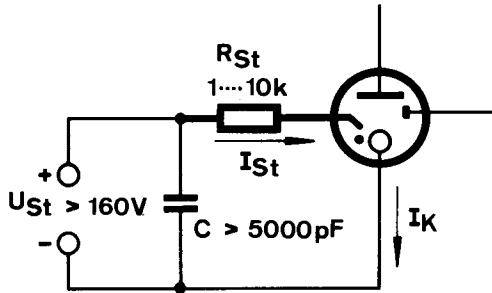

Fig. 5
4) Trigger capacitors of over 5.000 pF (e.g. in timer relays) need a current limiting resistor of 1 ... 10 k Ω in the starter circuit (Fig. 5).